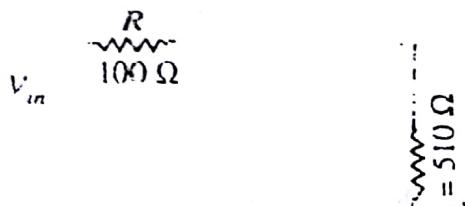

Fig. 21.53
1. The negative shunt clipper shown in Fig. 21.53 has peak input voltage of +15 V. What is the output peak voltage? [12.54 V]